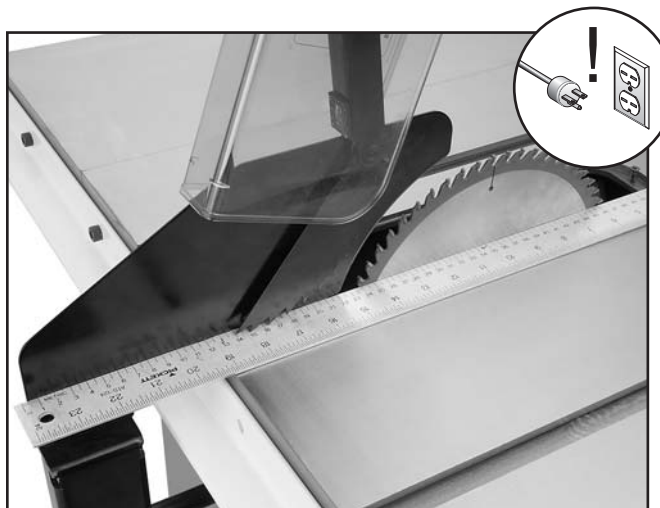

Figure 16. Checking alignment of blade guard.
4. Place a straightedge against the face of the saw blade (**Figure 16**) and slide the splitter over until it touches the straightedge.